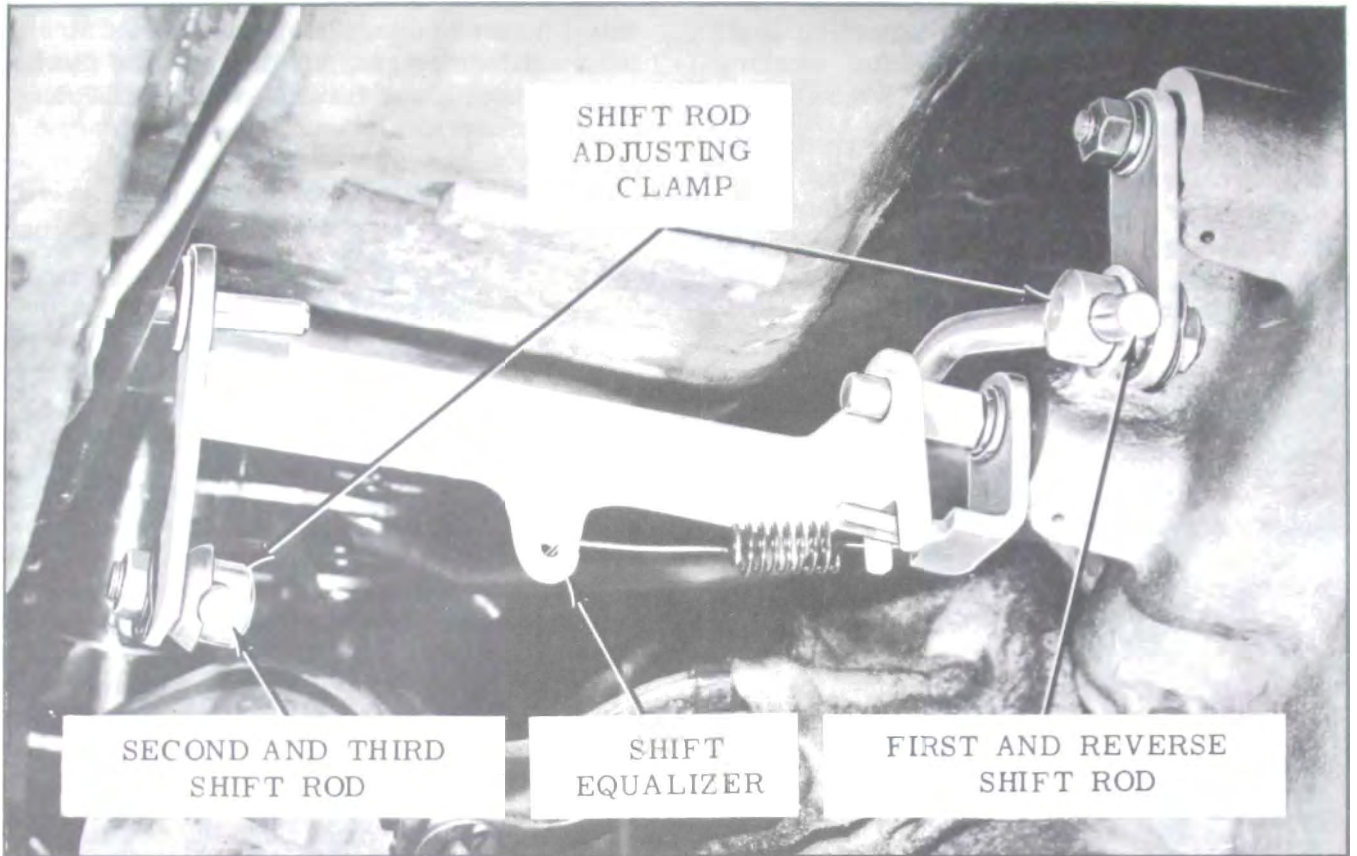

Figure 4-12—Loosening Shift Rod Adjusting Clamps
3. Loosen shift rod adjusting clamps. See fig. 4-12.